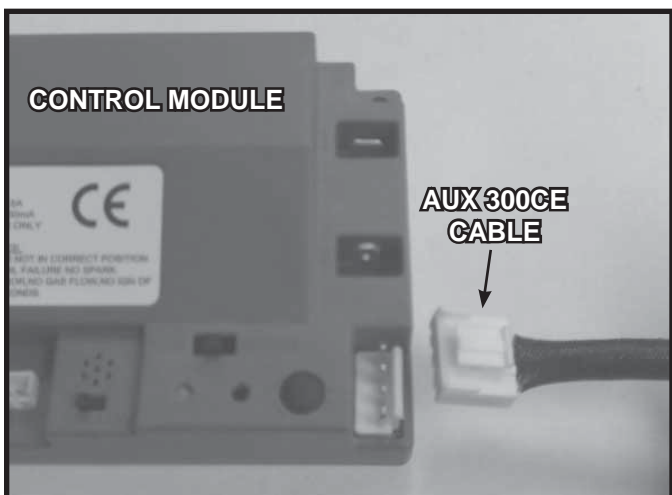

Figure 12.9 AUX 300 module installation
- Insert the 4 hole harness from the AUX300CE module into the 4 pin plug on the control module. See Figure 12.9.